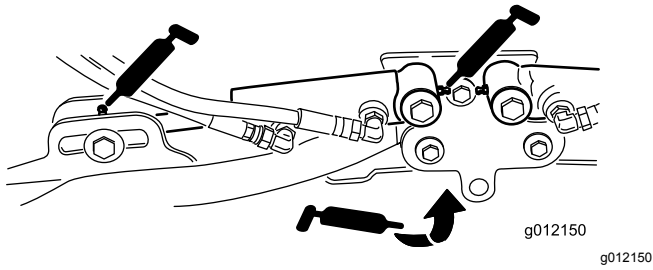

Figure 75
- Cutting-unit lift-arm cylinders (2 each) (Figure 75)
- Lift-arm pivots (1 each) (Figure 75)